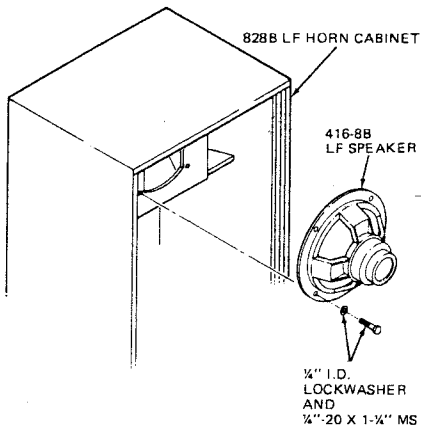

Figure 1. LF Speaker Installation
- Install 416-8B LF Speaker using four 1/4"-20 x 1 1/4" machine screws and lockwashers at T-nut mountings (see Figure 1).